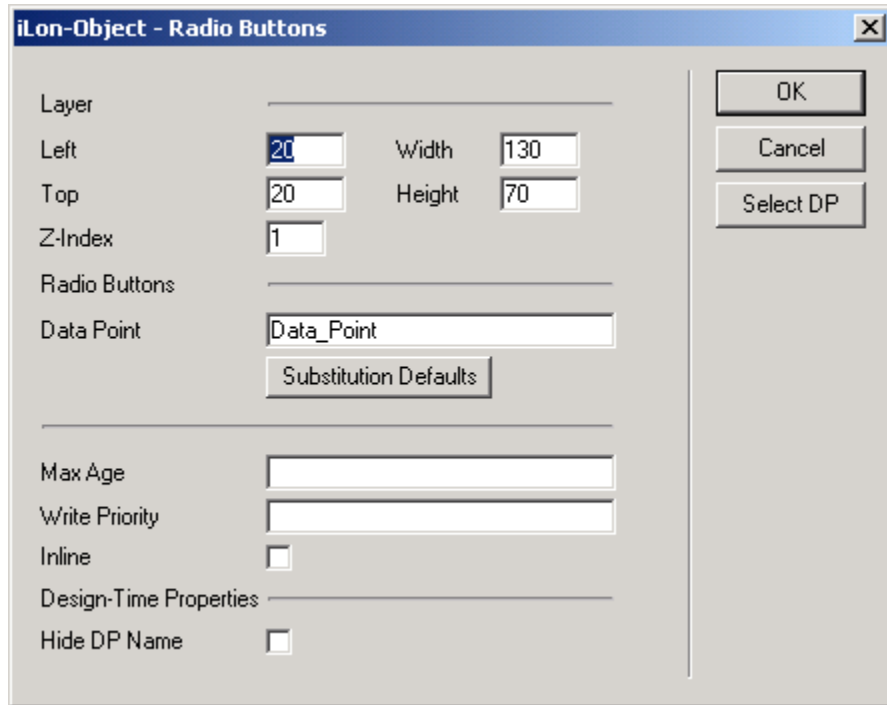

Figure 13.43 Radio Buttons Dialog
1. Open a draft of a Web page, click the *iLON* button, and then select **Radio Buttons**. An icon is inserted on the Web page where the radio buttons will be displayed, and the dialog shown in Figure 13.43 opens.